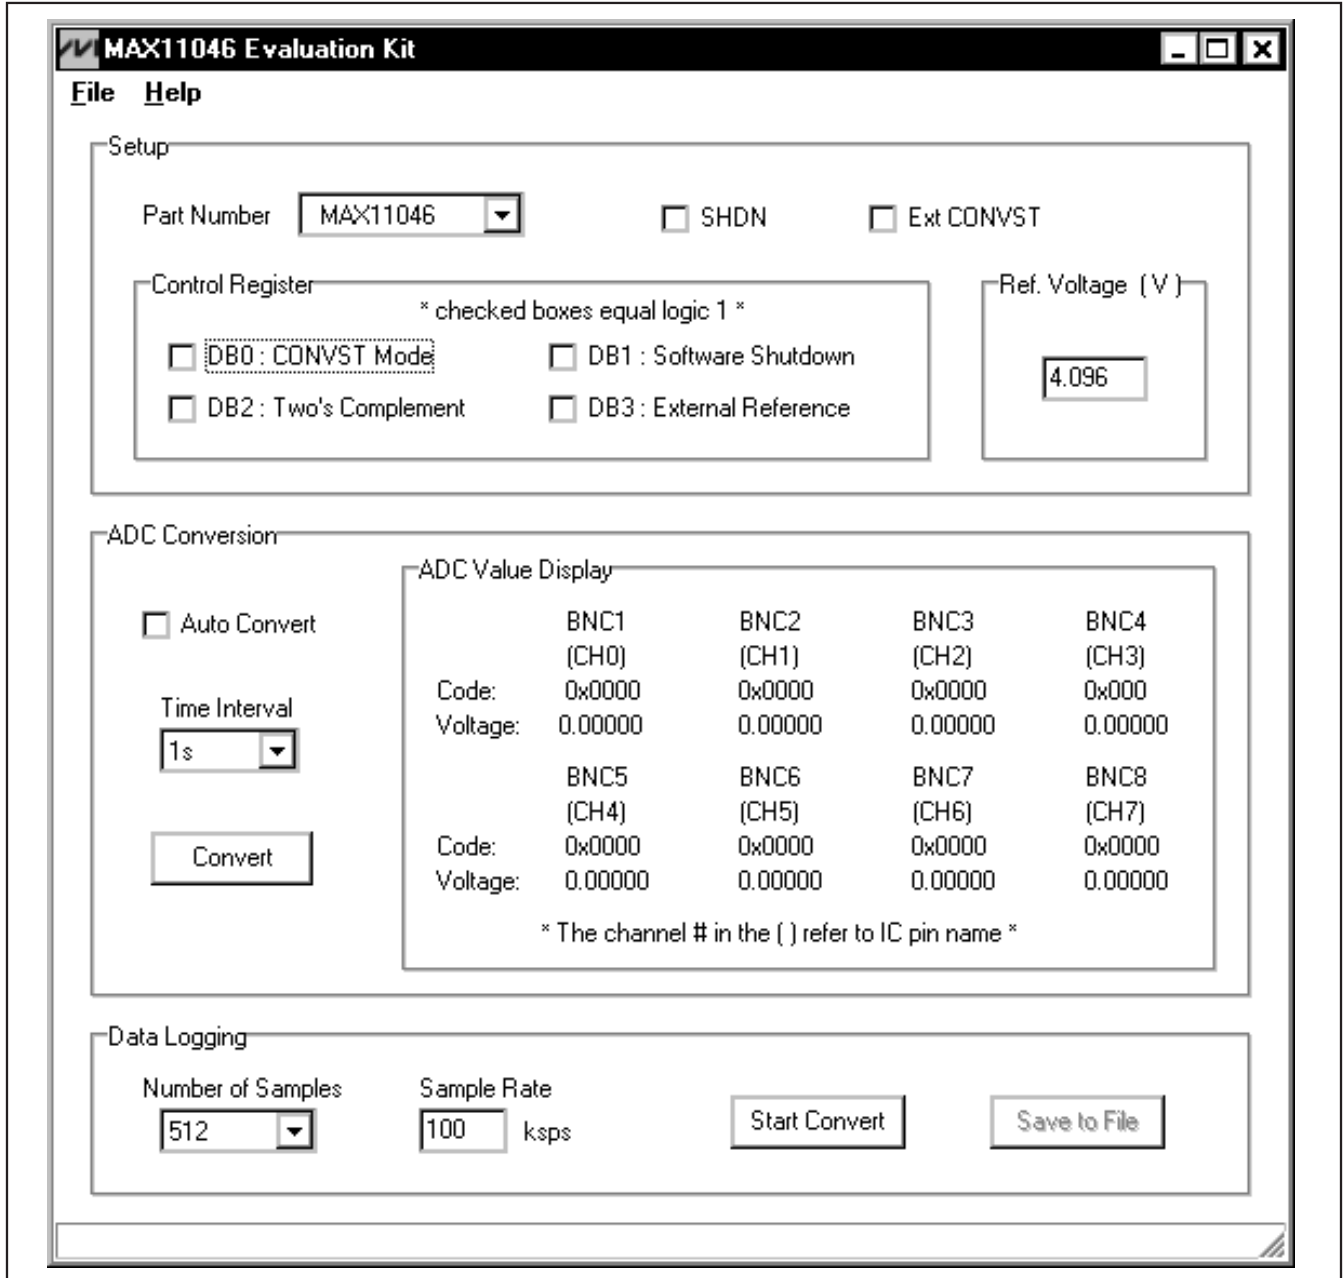

Figure 1. MAX11046 Evaluation Kit Main Window
10) Start the MAX11046 EV kit software by opening its icon in the **Start | Programs** menu. The EV kit software main window appears, as shown in Figure 1.
The evaluation software's window is shown in Figure 1. There are three sections on the GUI to control the IC. They are **Setup**, **ADC Conversion**, and **Data Logging**.